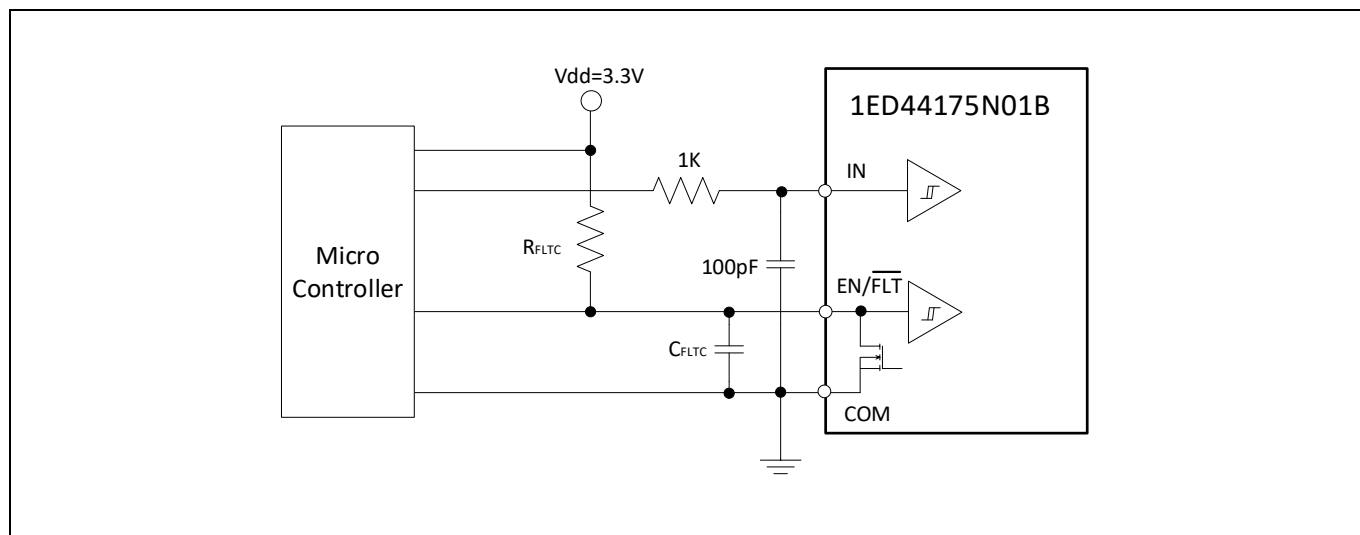
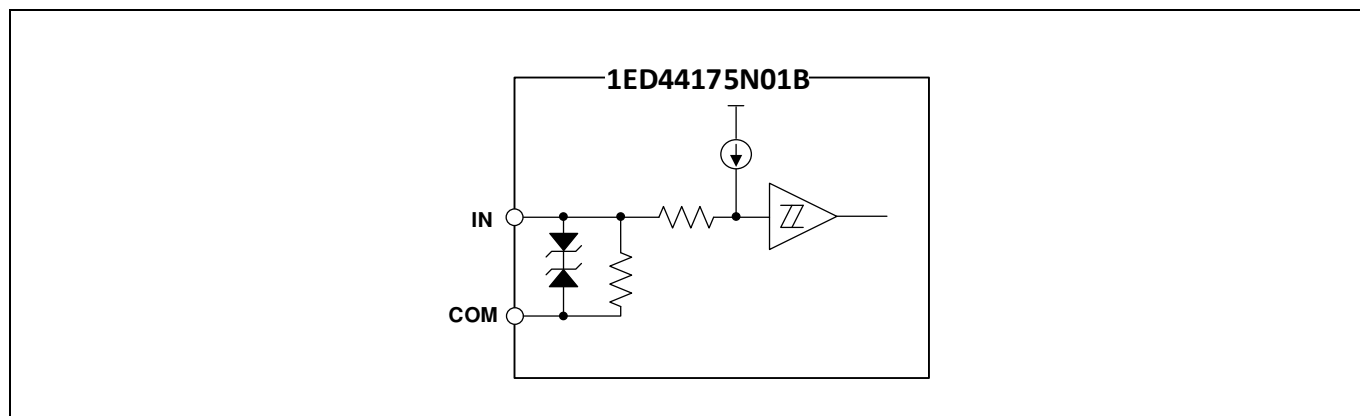

Figure 3 Recommended micro-controller I/O interface circuit
Figure 4 Simplified input structure diagram of 1ED44175N01B
- To prevent signal oscillations, an RC coupling is recommended as illustrated in Figure 3.
Figure 3 shows the I/O interface circuit between a micro-controller (μC) or digital signal processing (DSP) and the 1ED44175N01B. The 1ED44175N01B input logic is active-high. The $\text{EN}/\overline{\text{FLT}}$ output is an open-drain configuration. This signal should be pulled up to high by an external logic power supply with a pull-up resistor. RC (1 K Ω / 100 pF) is recommended for the “IN” pin to prevent input noise.
As shown in Figure 4, the 1ED44175N01B input signal section integrates a pull-down resistor. Therefore, when using an external filtering resistor between the micro-controller output and 1ED44175N01B input, pay attention to the signal voltage drop at the 1ED44175N01B input terminal. It should fulfill the logic "1" input voltage requirement. For instance, $R = 1\text{ k}\Omega$ and $C = 100\text{ pF}$ are recommended for the parts shown in Figure 3.